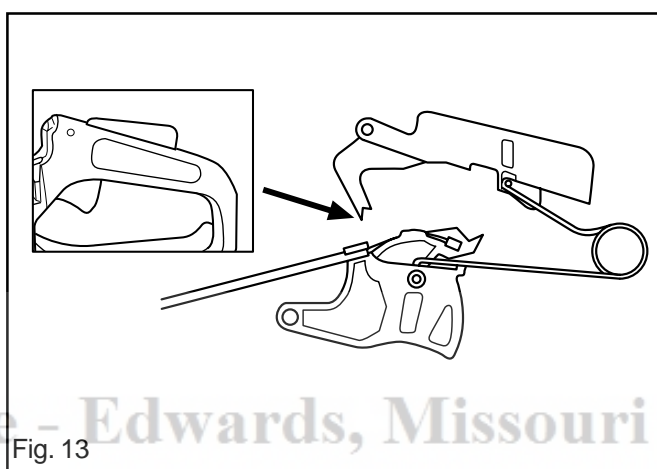

Fig. 13
3. Press apart with a screwdriver or the like the throttle lock/control and take out the throttle lock from the recess in the hand grip. Now remove the spring. See fig.13.
2. That the lock activation mechanism is not worn. See fig. 13.